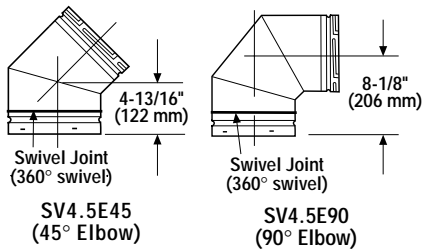

Figure 18
H. Change vent direction to horizontal/inclined run - At transition from or to a horizontal/inclined run, install the SV4.5E45 and SV4.5E90 elbows in the same manner as the straight vent sections. The elbows feature a twist section to allow them to be routed about the center axis of their initial collar section to align with the required direction of the next vent run element. **Twist elbow sections in a clockwise direction only so as to avoid the possibility of unlocking any of the previously connected vent sections.** See **Figure 18**.
Analyze the vent routing and determine the types and quantities of sections required 4-1/2" (114 mm), 10-1/2" (267 mm), 22-1/2" (572 mm), 34-1/2" (876 mm) and 46-1/2" (1181 mm) net section lengths are available. Plan the vent lengths so that a joint does not occur at the intersection of ceiling or roof joists. Make allowances for elbows as indicated in Figure 18 on page 13.
J. Change vent direction - At transition from or to a horizontal/inclined run, install the SV4.5E45 and SV4.5E90 elbows in the same manner as the straight vent sections. The elbows feature a twist section to allow them to be routed about the center axis of their initial collar section to align with the required direction of the next vent run element. **Twist elbow sections in a clockwise direction only so as to avoid the possibility of unlocking any of the previously connected vent sections.** See **Figure 18 on page 13**.